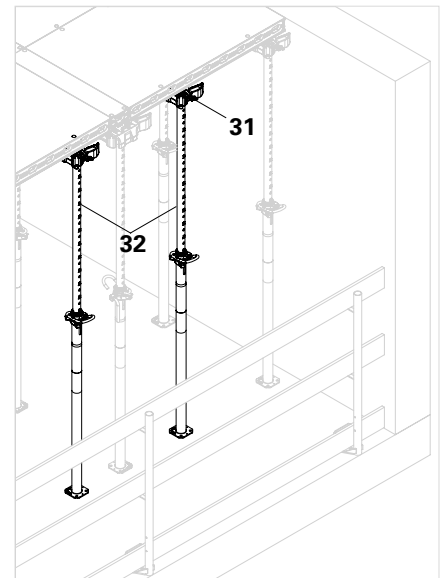

Fig. D4.06a
1. Erect additional props with the DFH prophead (32) across the width of the cantilevered DP panels (10). (Fig. D4.06a)